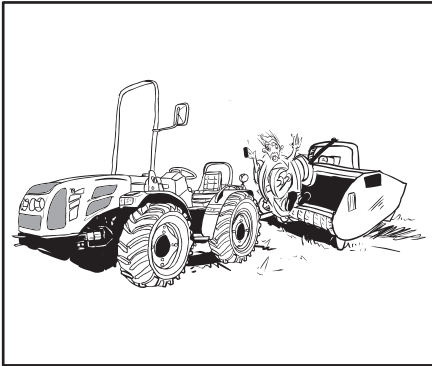

Fig. 2.18
- Make sure that the power take-off (110) guard is in position and that the shaft's cap (111) is on when the power take-off is not used.
- Before connecting, disconnecting, cleaning or adjusting towed implements from the power take-off, turn off the engine, remove the key and make sure that the power take-off's shaft is locked in place (Fig. 2.18).